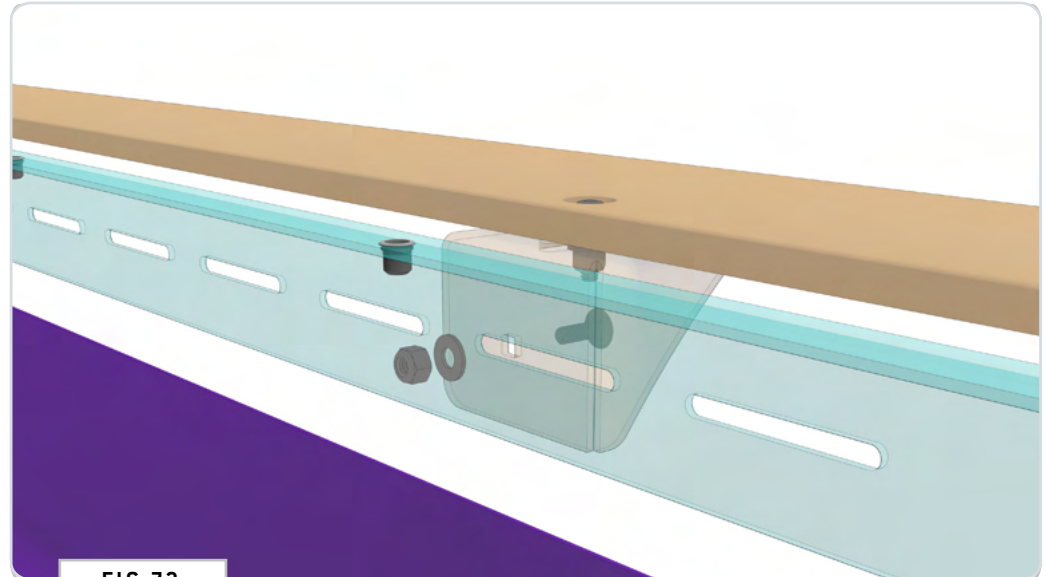
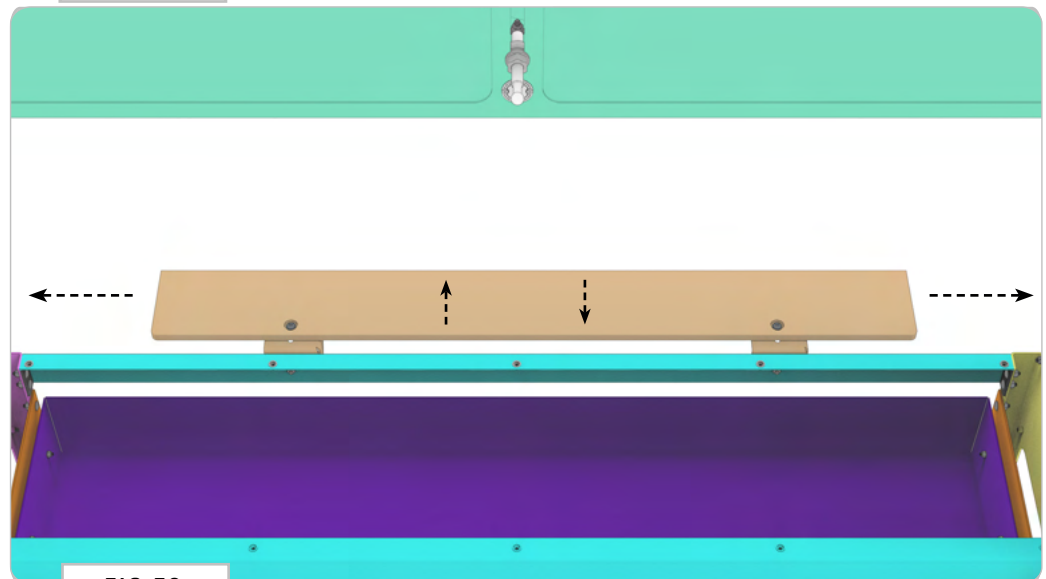

FIG 72
FIG 73
**5.5 Fit and Install Hinge Side Flare:** Loosely attach the **Hinge Side Cabinet Flare** in the orientation as shown to the **Rear Support** of the **Hinge Side Cabinet** using (2) 1/4-20 x 0.75 **Square Neck Carriage Bolts**, **Flat Washers** and **Nylon Locknuts** (FIG 72). Adjust left, right, up and down until you're satisfied with the fitments and finish by securing all fasteners (FIG 73).